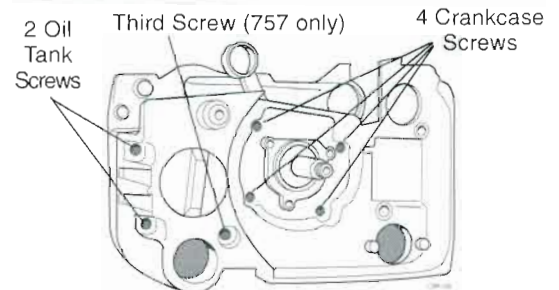

Figure 8.7 Crankcase Fasteners (757)
STEP 5. Loosen and remove the two Allen screws securing the crankcase halves at the front of the saw (Figure 8.7).